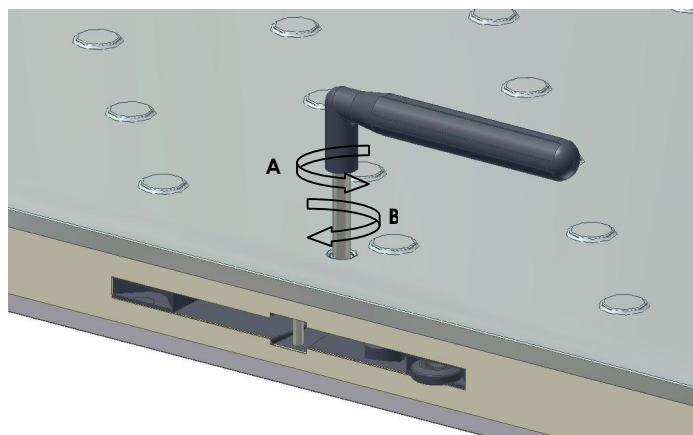

Fig. 3
- Turn the screwdriver on the opposite direction of the hands of a clock till it stops. (Fig. 3 – **A** direction);
- Turn the screwdriver on the opposite direction till it fasten (Fig. 3 – Sentido **B**)